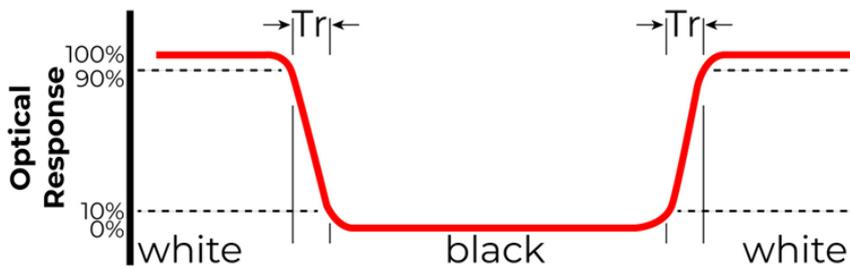

Figure 2. The definition of response time
**Note 4.** Response time is the time required for the display to transition from white to black (Rise Time, Tr) and from black to white (Decay Time, Tf). For additional information see Figure 2. The test equipment is BA-7A.